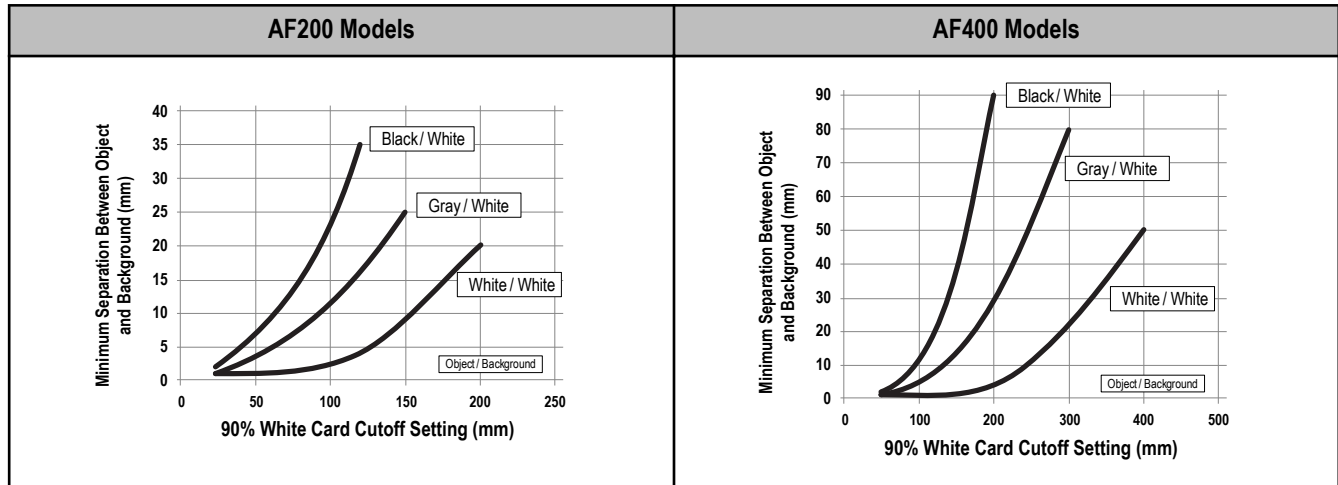

Figure 5. Minimum Separation Distance
To ensure reliable background suppression, a minimum separation distance between the object and the background is necessary. See Figure 5. Minimum Separation Distance on page 10 to determine the minimum separation distance.
1. Mount the sensor with the darkest object at the longest application distance. The distance to the object must be less than shown in Figure 5. Minimum Separation Distance on page 10 for your object color.
An object with a reflectivity similar to black paper is set 100 mm (3.9 in) away from the AF200 sensor. A background with a reflectivity similar to white paper is set away from the sensor. According to Figure 5. Minimum Separation Distance on page 10, the minimum separation distance between the object and the background is 24 mm (0.94 in). In this application, reliable detection is achieved when set up according to the procedure outlined in Sensor Setup - Background Suppression—AFxxx Models on page 4.